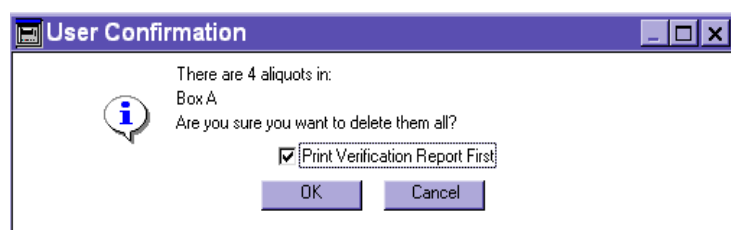

figure n2
**Step 3:** If you are deleting more than one sample, a second confirmation message appears. (figure n2)